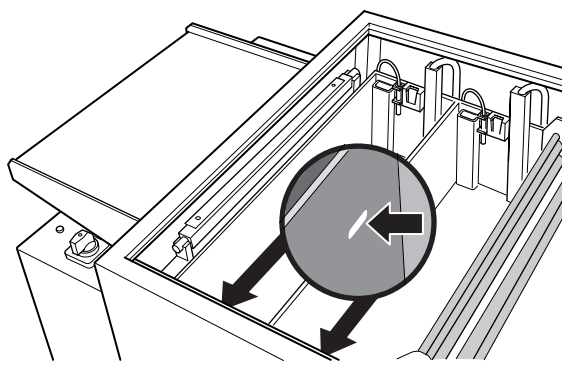

Fig. 3
- Fill the fixer tank with ready-to-use fixer up to the marker line (fig. 3).